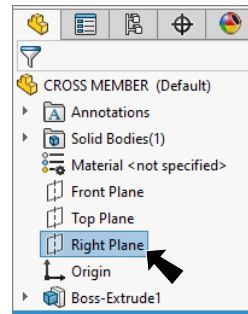

Fig. 10
Step 1. Click **Right Plane**  in the Feature Manager to select Plane, **Fig. 10**.